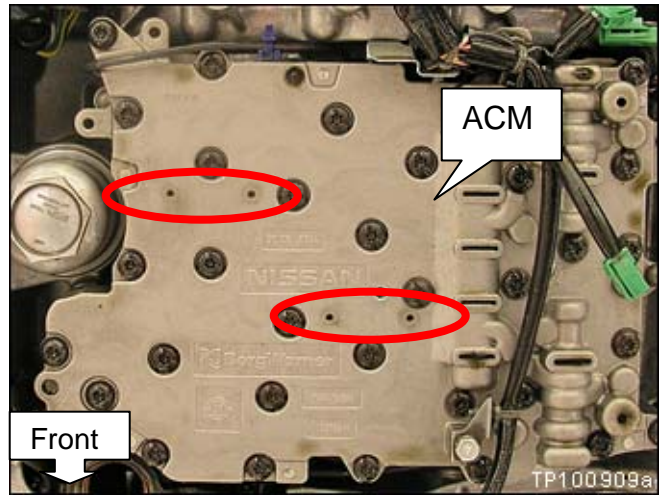

Figure 8
12. Install holding pins (special tool J-50392) into the holes shown in Figure 8.